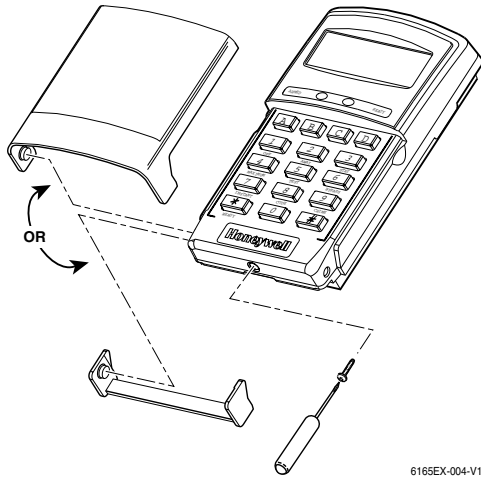

Figure 3 – Securing the Case
7. Test the tamper function and adjust the plunger (if necessary) before securing the keypad to its case back with the screw (refer to Figure 3).